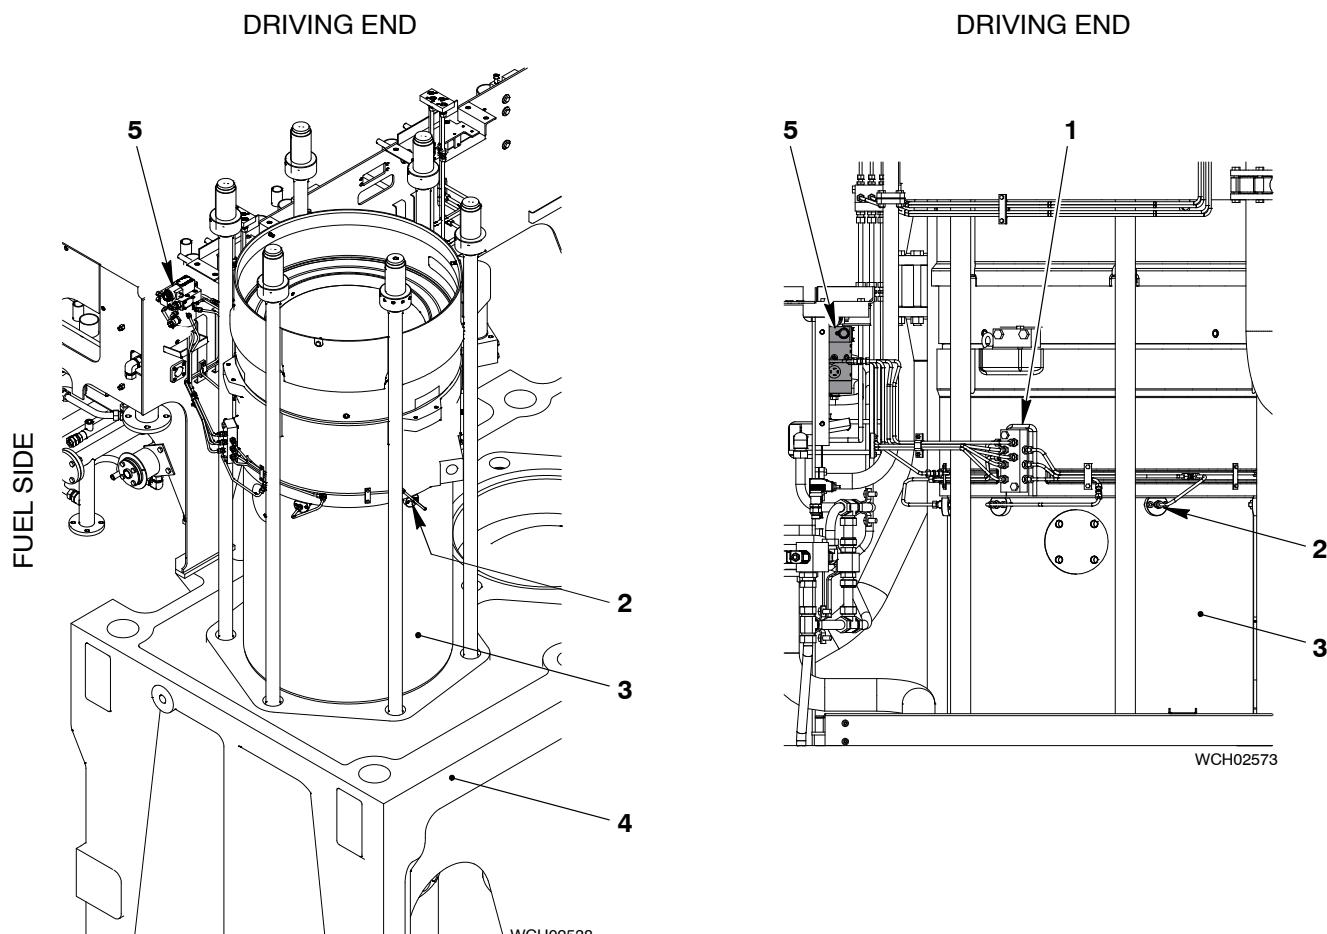

Fig. 5: Lubricating Quills
Lubricating oil is injected on to the cylinder liner (3, Fig. 5) wall through the six lubricating quills (2) installed on the circumference of the supporting ring (see also paragraph 8.2).